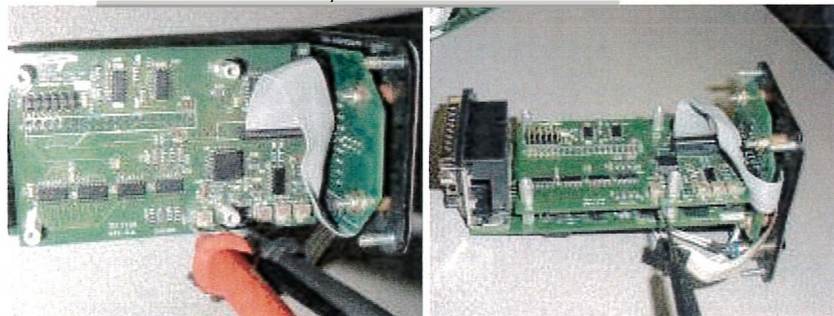

Figure 3 - Adjusting the R32 Variable Resistor
3. Adjusting **R32** for Elevator Nose Down indication. To adjust, set the Multimeter to read resistance, and place the probes on TP32 and TP32-1 as shown in Figure 3, and adjust the variable resistor.